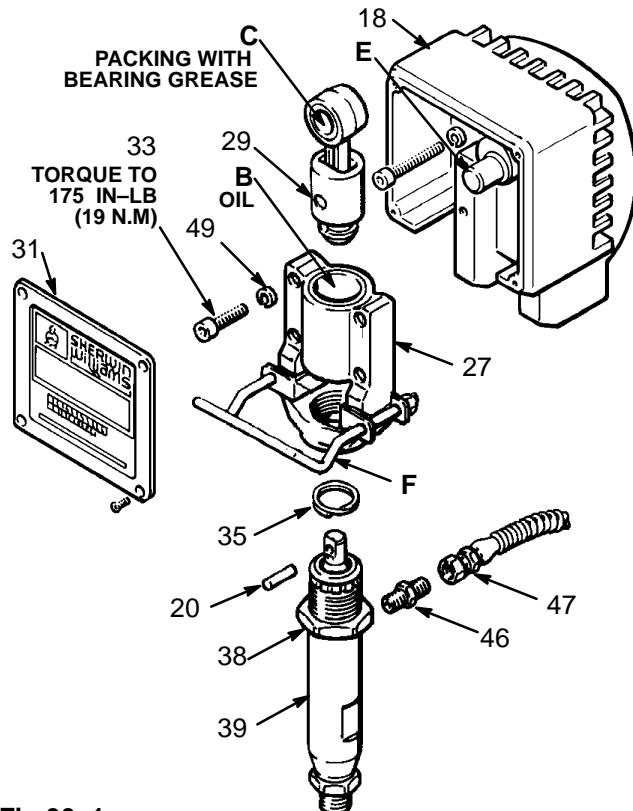

Fig 30-1
13. Install the front cover (31). Connect the suction tube and the short hose (47) to the pump. See Fig 30-1.